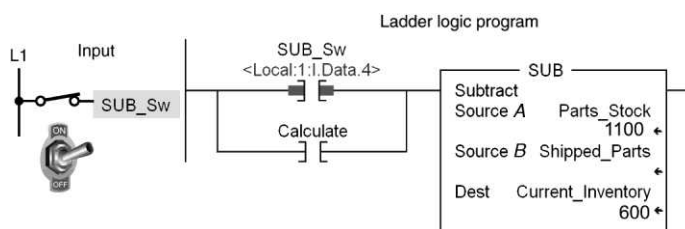

Figure 15-42 SUB instruction rung for question 3.
3. For the SUB instruction rung shown in Figure 15-42, the number of shipped parts would be 3. _____